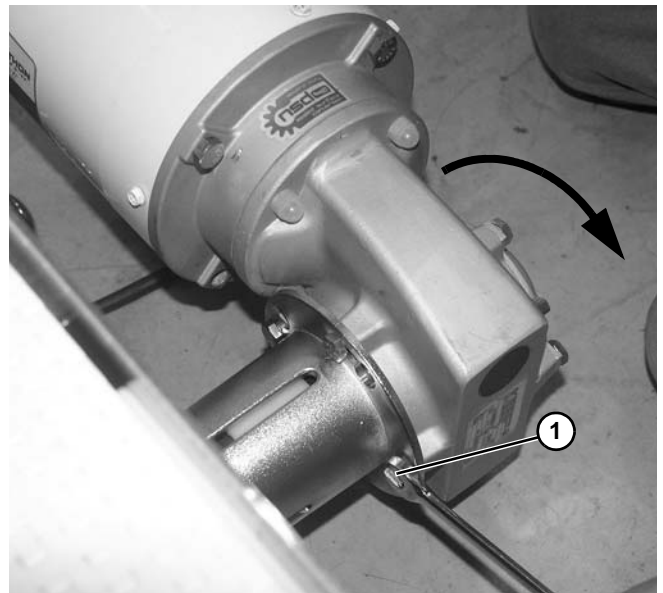

Figure 63
- Loosen the four screws (**Figure 63, item 1**). Rotate and remove the gearmotor. (For further detailed instructions, refer to drive package manual 851-947.)